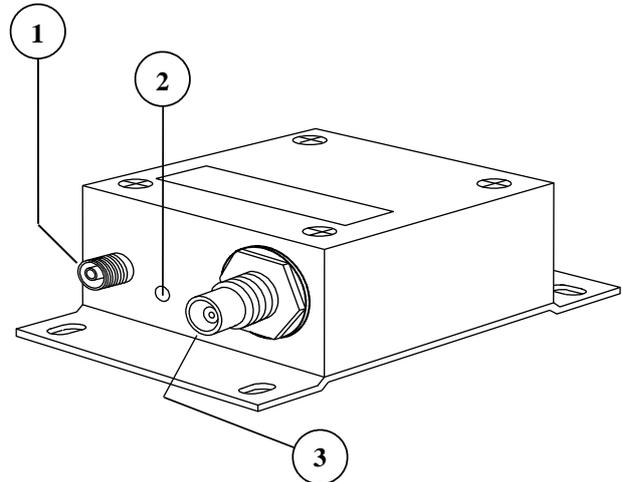

Figure 1.
Figure 1 shows the signal connection facilities and the indicator on the signal I/O side of a VBS stand-alone transmitter. The green LED (2) signals POWER ON. The optical output has an ST connector (1), while a 75  $\Omega$  BNC connector (3) is used for input.